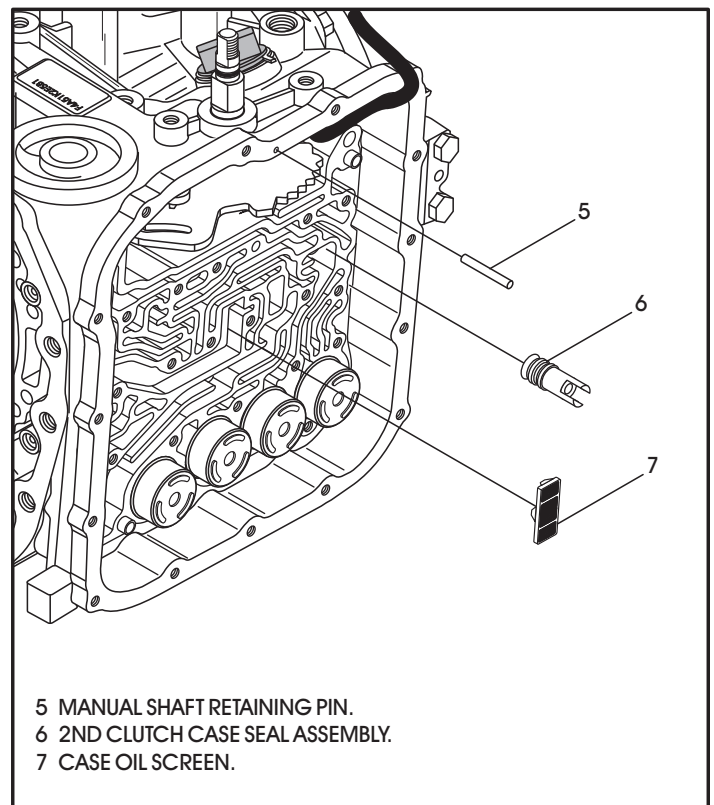

Figure 57
11. Remove the manual shaft retaining pin from pan rail, as shown in Figure 57.
12. Remove and discard the 2nd clutch case seal, as shown in Figure 57.
13. Remove the case worm track oil screen, as shown in Figure 57.